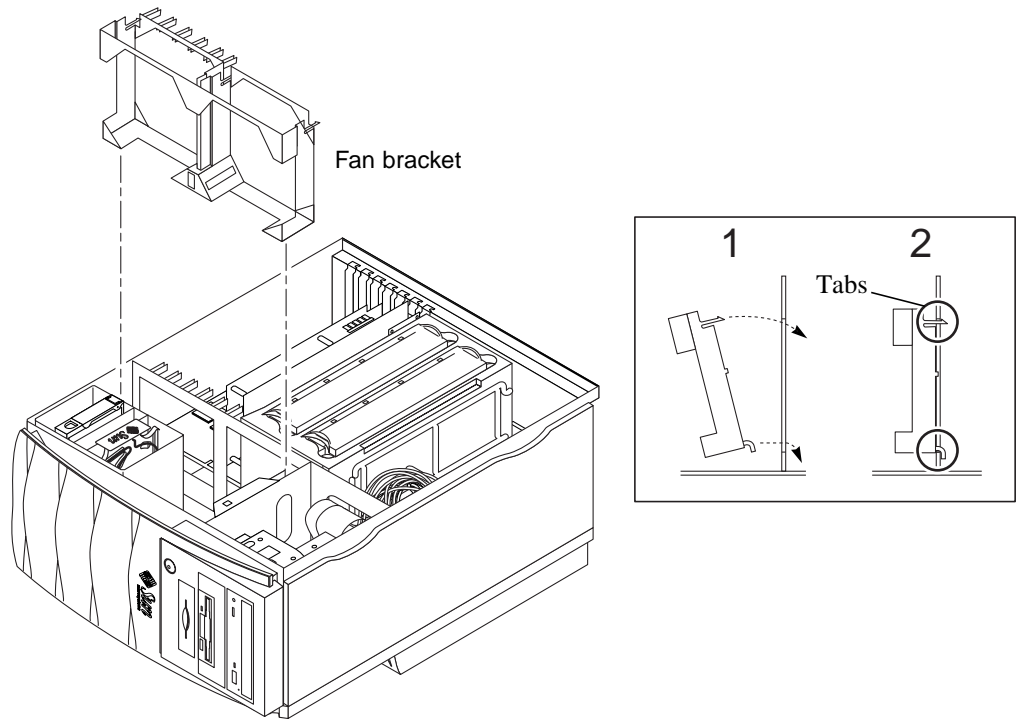

FIGURE 6-14 Removing and Replacing the Fan Bracket
2. **Disconnect the fan assemblies from the motherboard (FIGURE 6-14).**
See FIGURE 6-14.
- 1. Replace the fan assemblies (FIGURE 6-14).**